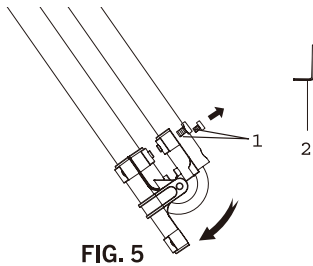

FIG. 5
2. Remove screw from shaft Fig. 5 (1).